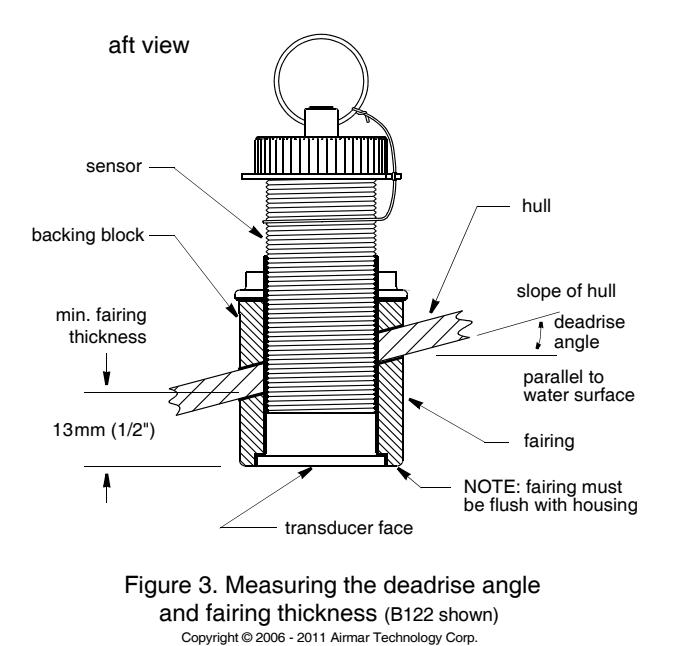

Figure 3. Measuring the deadrise angle
- Orients the transducer beam straight down by mounting the sensor parallel to the water surface (see Figure 3).
2. Using the 51mm or 2" hole saw, cut a hole from outside the boat (see Figure 3). Be sure to hold the drill plumb, so the hole will be perpendicular to the water surface.
1. Measure the deadrise angle of the hull at the selected mounting location using an angle finder (see Figure 3). *Check to be sure the angle does not exceed the 35° maximum allowed.*
4. Adjust the cutting fence so the fairing will be cut in about two equal parts. The section that will become the fairing must be a minimum of 13mm (1/2") at its thinnest dimension (see Figure 3). Cutting the fairing at an angle greater than 35° will cut into the sensor and/or bolt pocket, thus weakening the fairing.